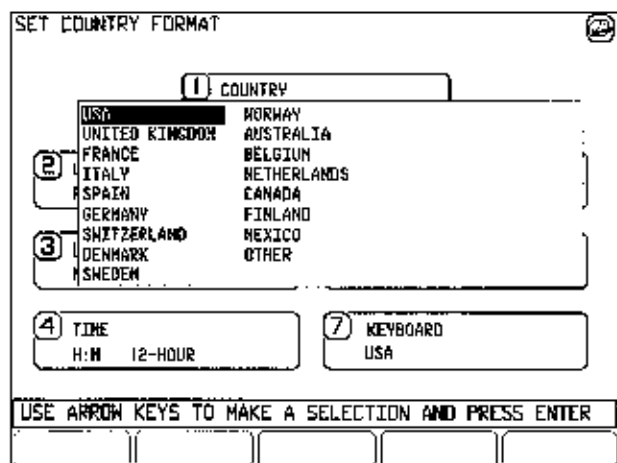

Figure 5-4
- Press the number of the category to be changed. A dialog box will appear listing the available choices for that particular category (see Figure 5-4).